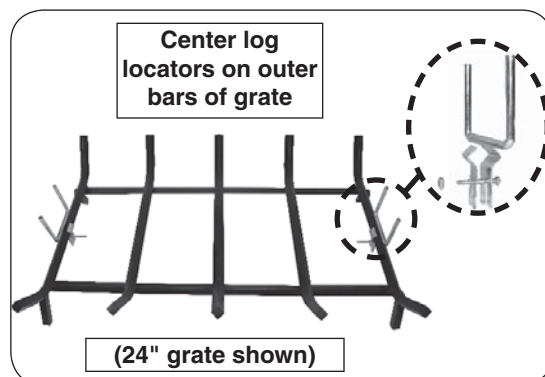

Fig. 19-3 Attach log locators to grate
1. Locate the grate (outside of the fireplace) and attach the log locators to the 2 outer bars of the grate using the provided screws and nuts (see Fig. 19-3).
The log locators should be positioned on the middle of the outer bars and oriented as shown in Fig. 19-3. Tighten the log locators in place.